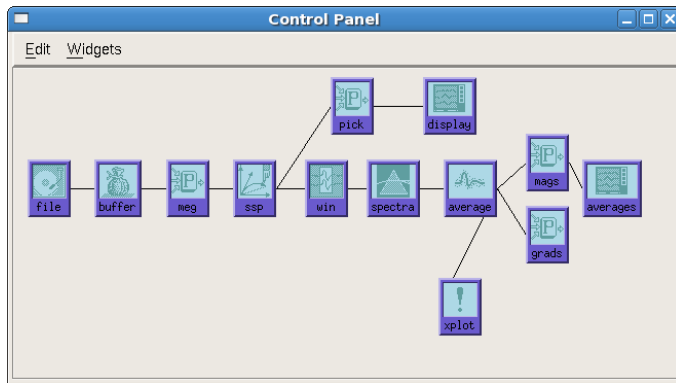

Figure 62: Control panel in ave_spectra.setup.
- Select **Displays -> Control panel (Alt-d + c)** to adjust the parameters and views (Figure 62).